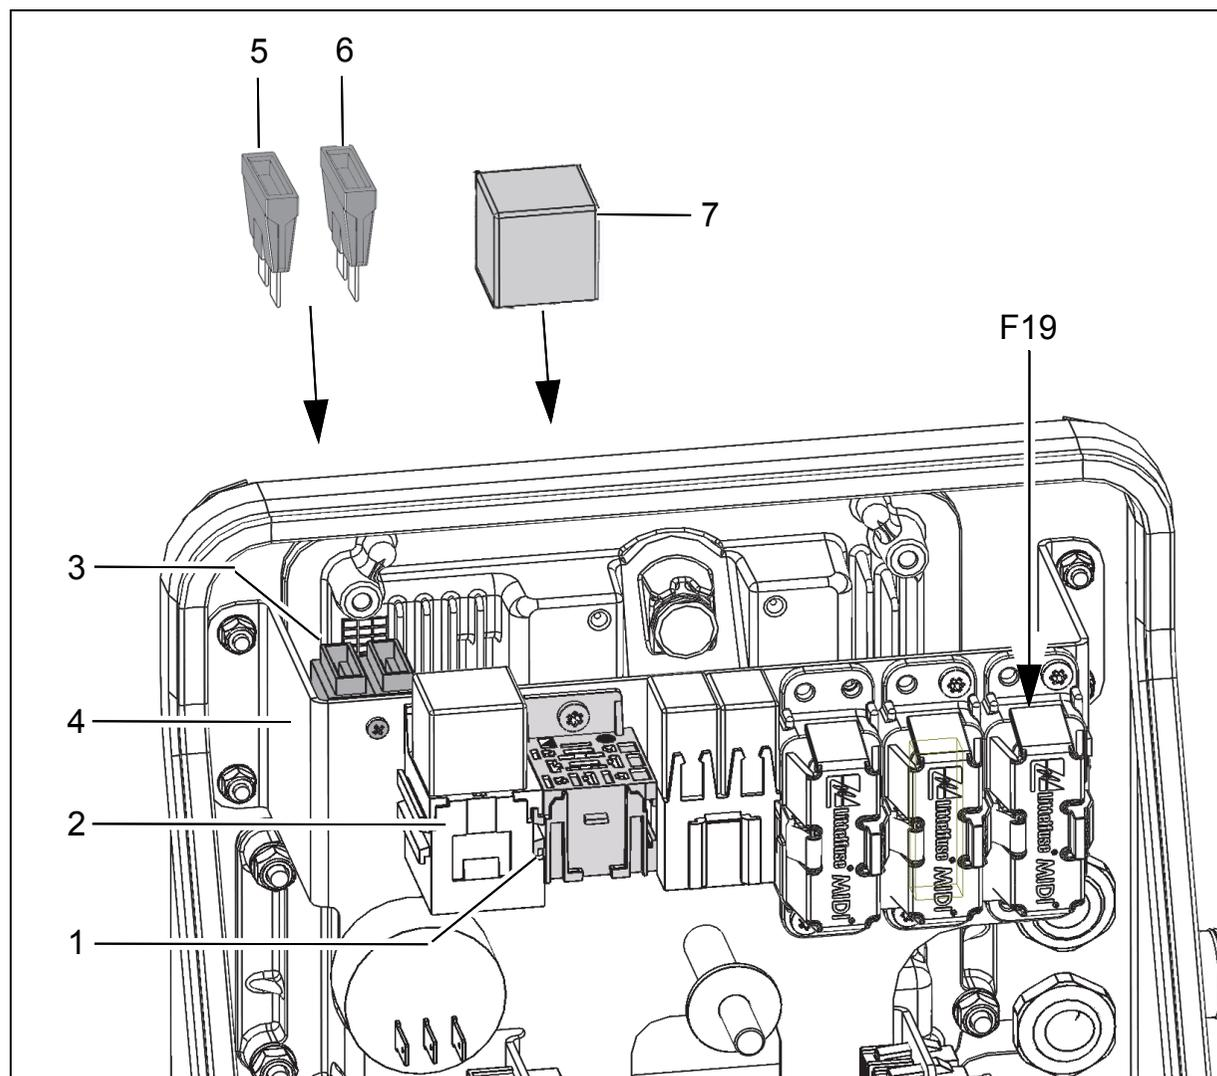

Fig. 3
1. Slide on relay socket (Fig. 3/1) at existing relay housing (Fig. 3/2) and secure using a Philips screw.
2. Secure the fuse housing (Fig. 3/3) to the panel (Fig. 3/4) using a Philips screw.
Left-hand fuse (Fig. 3/5) = F25
Right-hand fuse (Fig. 3/6) = F26
Insert the relay (Fig. 3/7) into the relay socket.